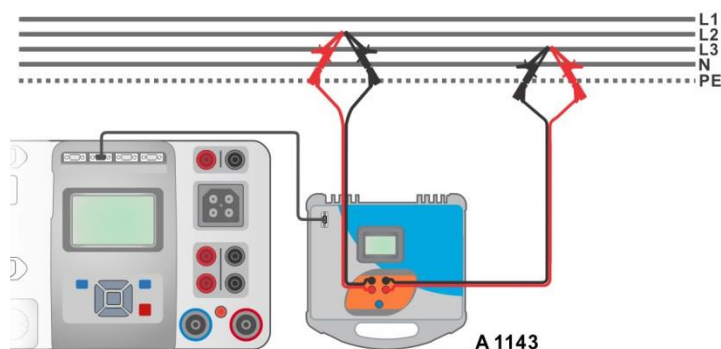
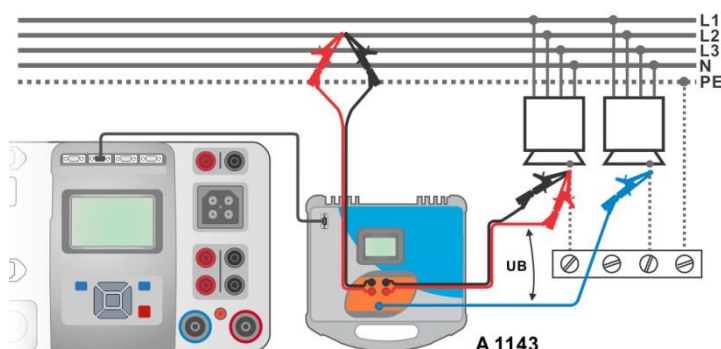

Figure 6.68: High precision loop impedance measurement – Connection of A 1143
Figure 6.69: Contact voltage measurement – Connection of A 1143
- Connect test leads to the object under test, see **Figure 6.68** and **Figure 6.69**.